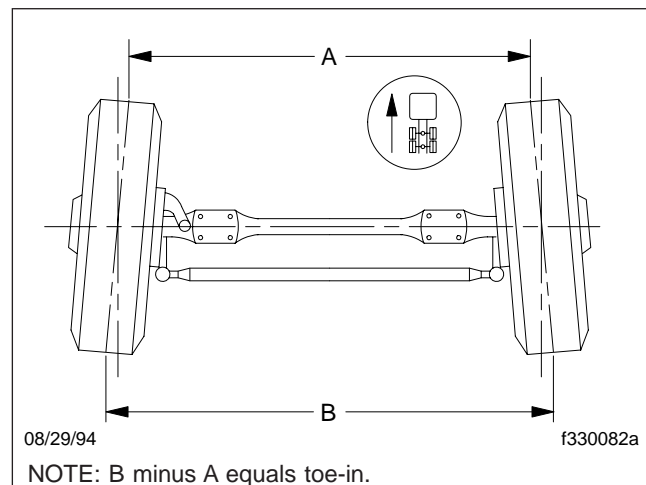

Fig. 4, Wheel Toe-In (overhead view)
6. Place a trammel bar at the rear of the front tires; locate the trammel pointers at spindle height, and adjust the pointers to line up with the scribe lines on the center ribs of the front tires. See **Fig. 4**. Lock in place. Check that the scale is set on zero.